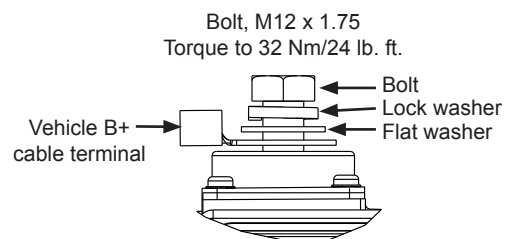

Figure 3: B+ Terminal Hardware Stacking Order
5. Connect vehicle B+ cable to alternator B+ terminal and install terminal hardware in stacking order shown in Figure 3. Torque hardware to 32 Nm/24 lb. ft.